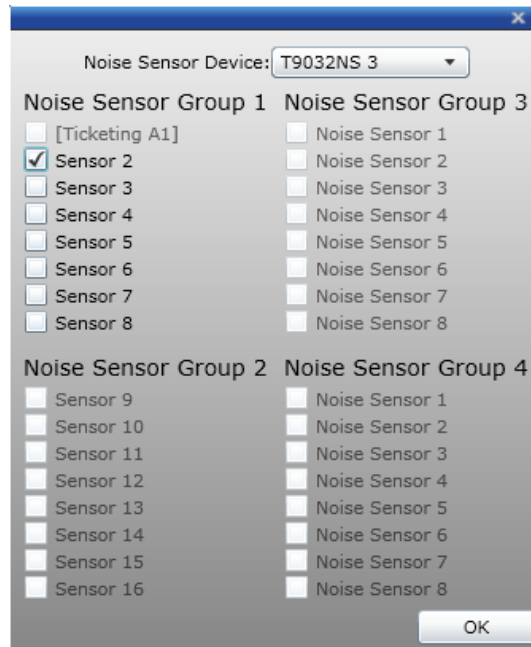

Figure 6-78: Ambient Sensor Assignment
Clicking on the **Assign Sensors** button will launch the Ambient Sensor Assignment window as shown in Figure 6-78. This is where one or more ambient sensors are directly assigned to control the currently selected channel. Each channel can have one (1) to four (4) ambient noise sensors assigned. When multiple sensors are use, the system averages the signal levels from all assigned sensors to obtain an ambient noise level reading. There are three very critical rules related to using multiple ambient noise sensors in a single zone that are described below.